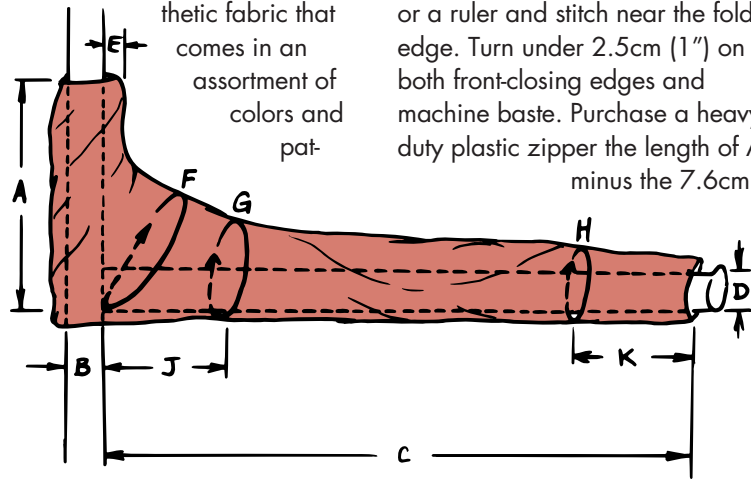

Figure 1
Use your existing cover as a pattern or measure the furling sail on the boom, following our diagram (**Figure 1**) and noting the following measurements: A, bottom of boom to head of furling sail; B, circumference of mast; C, aft edge of mast to end of boom; D, circumference of boom; E, distance from aft edge of mast to outer edge of headboard; F, circumference of furling sail taken at a 45° angle; G, circumference of furling sail .9m (3") from mast (J); H, circumference of furling sail .9m (3") from end of boom (K). (Allow extra girth for mast or boom-mounted winches and cleats.) From these measurements make a pattern out of kraft paper. Add a 19mm (3/4") seam allowance on the top edge. On the front closing add a 2.5cm (1") seam allowance. On all other edges — bottom, top around the mast and boom end — add an extra 7.6cm